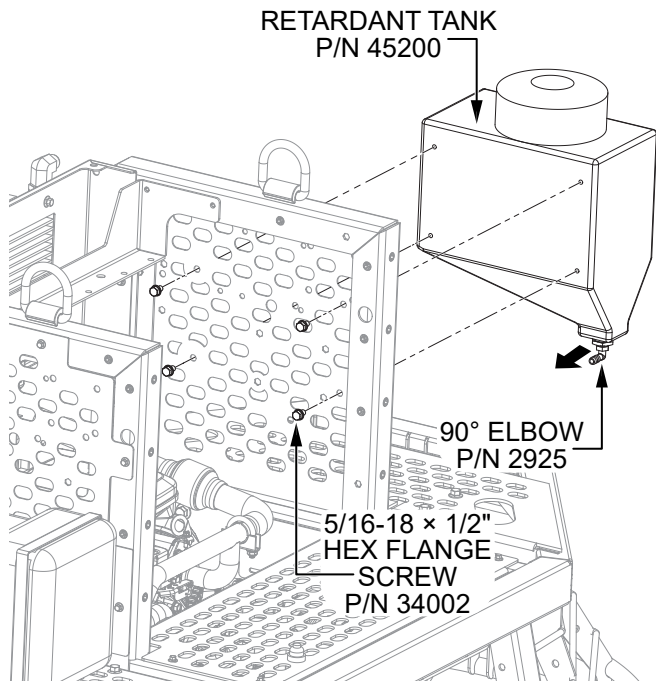

Figure 4. Install Retardant Tank
3. Secure the retardant tank (P/N 45200) to the trowel frame using four 5/16-18 x 1/2" hex flange screws (P/N 34002). See Figure 4.
4. Once the tank has been installed, securely tighten the 90-degree elbow (P/N 2925). Make sure the elbow is pointing in the correct direction (in toward the machine) as shown in Figure 4.